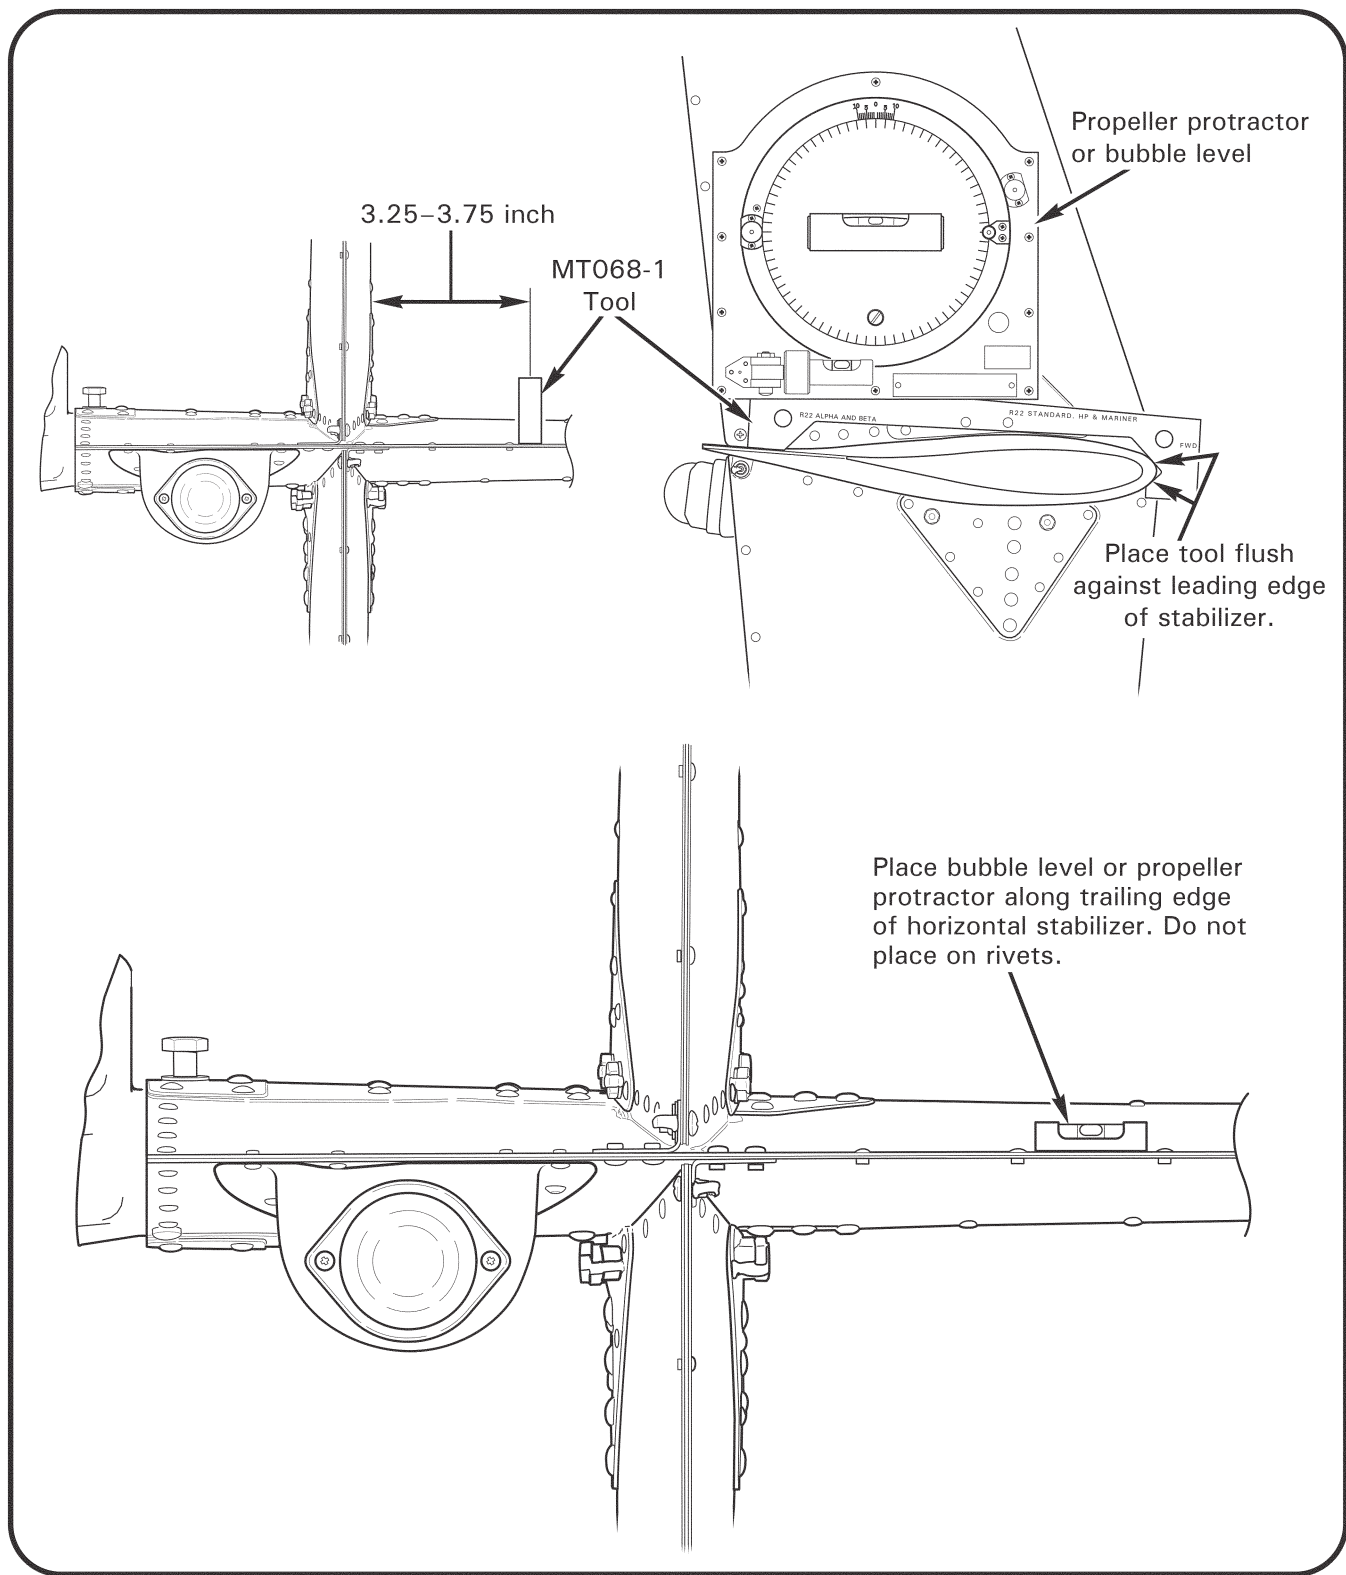

FIGURE 4-4 EMPENNAGE ASSEMBLY REPLACEMENT
2. Refer to Figure 4-4. Position empennage assembly on tailcone aft bulkhead. Insert (2) NAS1304-28 bolts thru top mounting holes in A044-1 horizontal stabilizer.